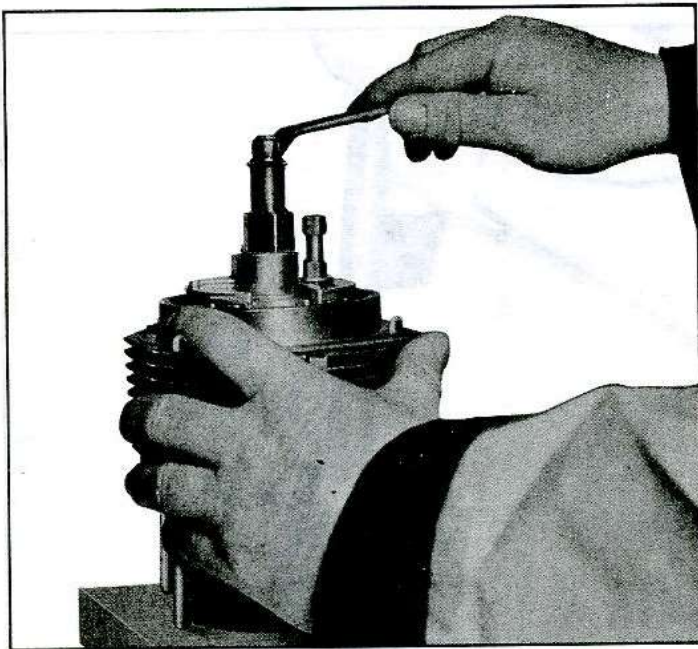

Fig. 99—Removing Ridge from Cylinder
3. Install cylinder over bolts on wood fixture. Holding cylinder with one hand, insert ridge reamer and remove ridge and/or carbon from cylinder (fig. 99).